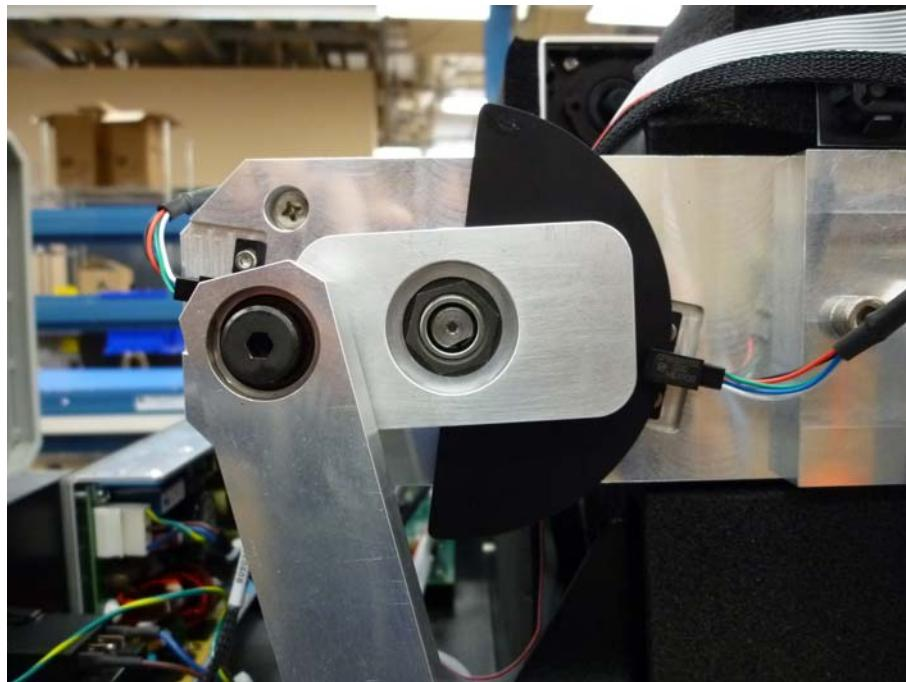

Figure 32
2. When racks are moving upwards, right Optical Sensor is kept interrupted (**Figure 32**).